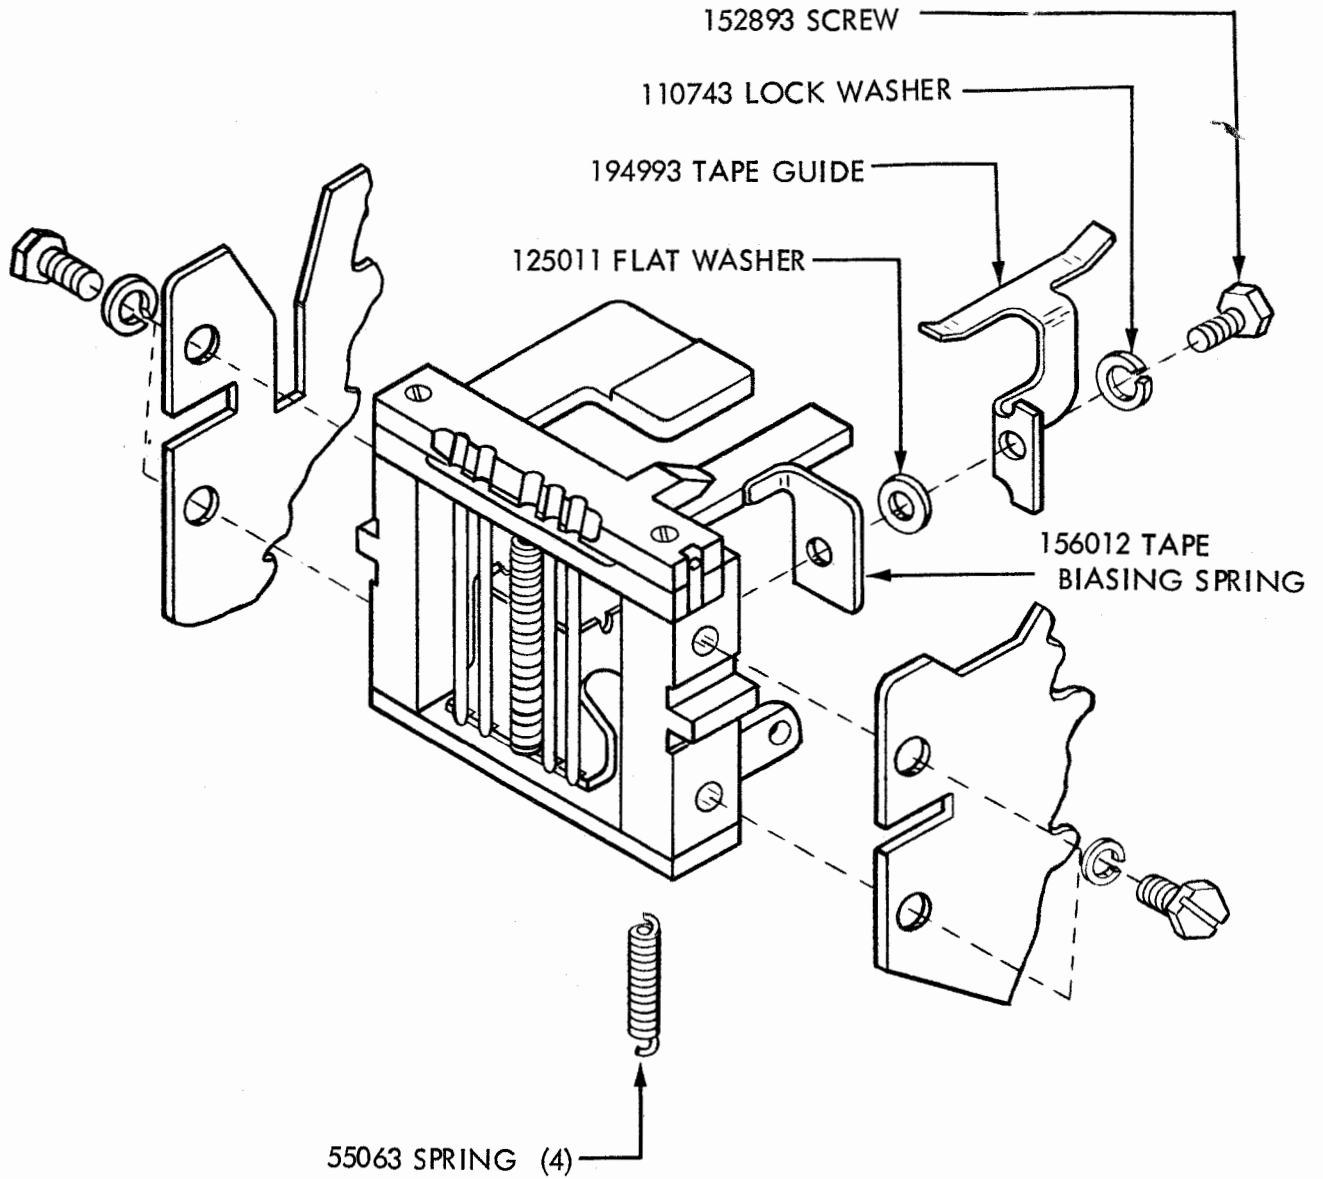

FIGURE 1
2. INSTALLATION (See Figures 1 and 2)
(1) If the unit being modified is equipped with a spring retracted (retractable bail) punch, reassemble in the following order: (Figure 1)